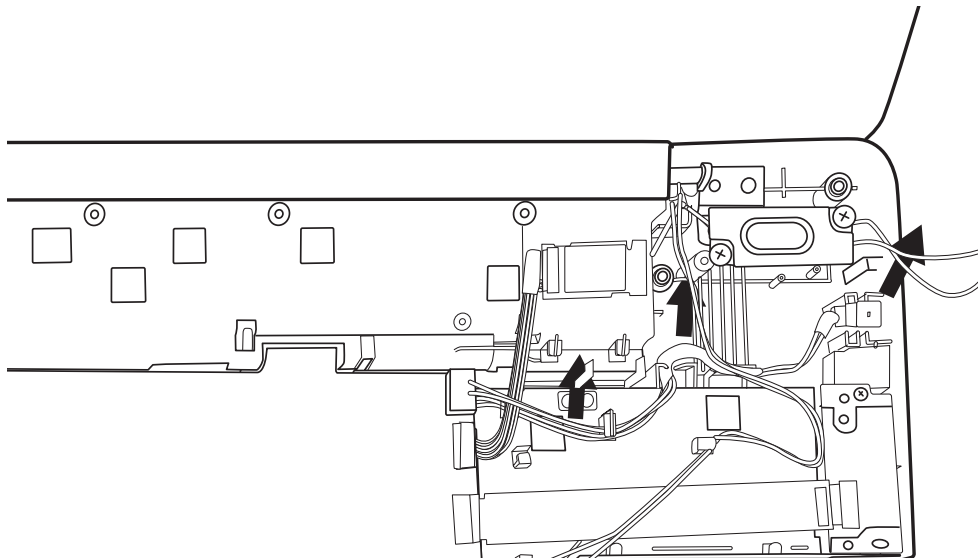

Figure 4.20 Removing the DC IN connector and cable
2. Remove the DC IN connector and cable out of the logic lower assembly from right to left, as shown in Figure 4.20.